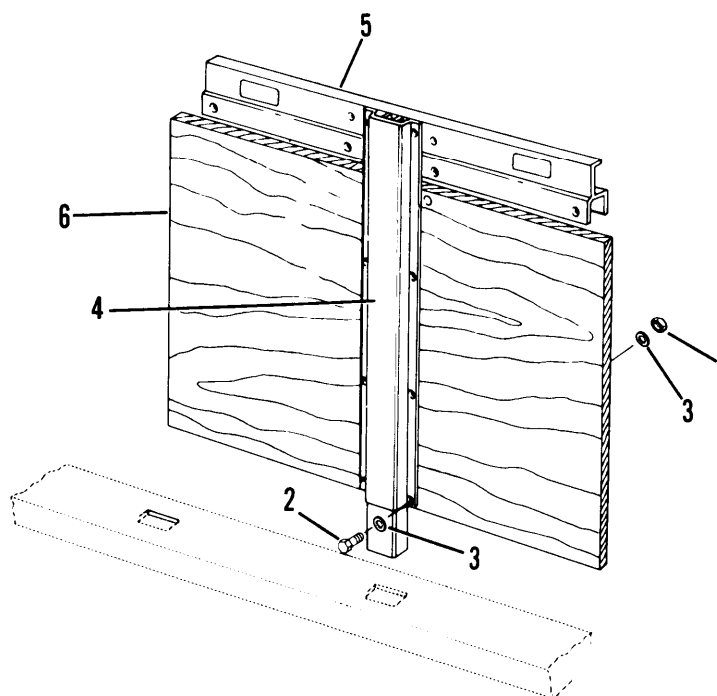

Figure 4-60. Side Panels
(1) Remove twelve nuts (1, fig. 4-60) , screws (2) , washers (3) and stake (4) .
(2) Pull off top rail (5) from board (6) .
- (1) Install top rail (5, fig. 4-60) on board (6).
- (2) Install stake (4), and secure using twelve screws (2), washers (3) and nuts (1).
- (3) Install side panels on semitrailer .